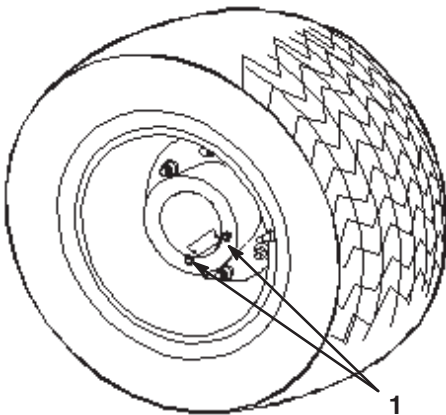

Figure 44
1. Position the sprayer on a level surface with the rear wheels positioned for draining as illustrated in Figure 44.
3. Place a pan under the drain plugs and remove them from the wheel (Fig. 44).